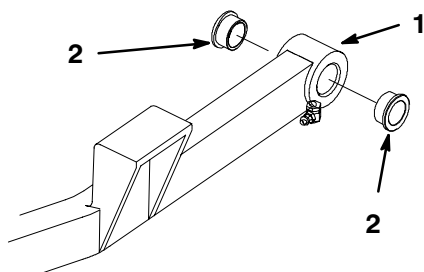

Figure 76
4. Insert a pin punch into the push arm and carefully drive out the bushings (Fig. 76). Clean the inside of the push arm.
5. Use a hammer and flat plate to carefully drive new bushings into the end of push arm (Fig. 76).